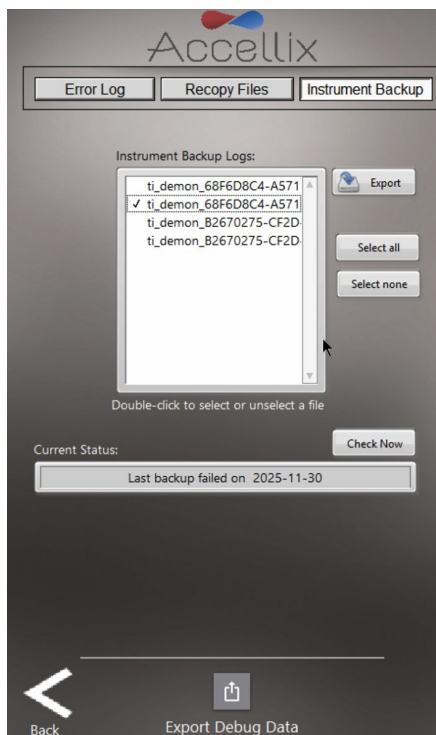

Figure 24: Instrument Backup Tab of Error Window
3. The **Instrument Backup** tab (see Figure 24) is enabled if instrument backups are enabled on the device. This tab displays a list of all log files created by the instrument backup software. Any or all of these files can be selected and exported. Files are exported to the folder **Instrument Backup Logs** in the backup directory. In addition, this tab displays the status of the backup and allows the user to check the status.